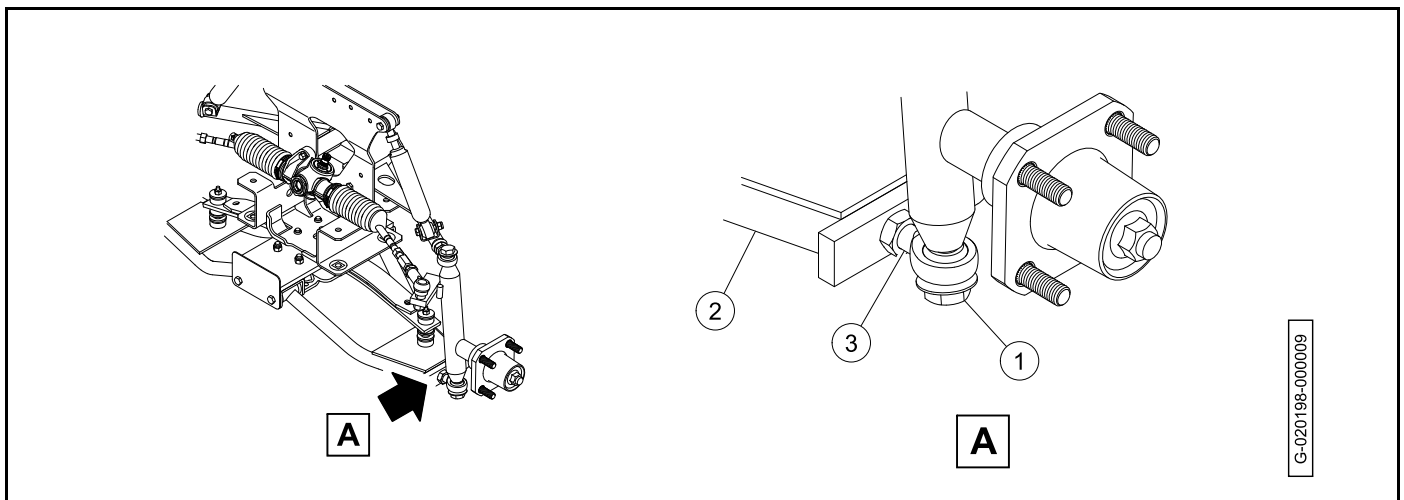

Figure 7-15
4. Remove the bottom hex-head bolt (1) that secures the lower a-arm (2) to the bottom of the spindle (**Figure 7-15, Page 7-13**).